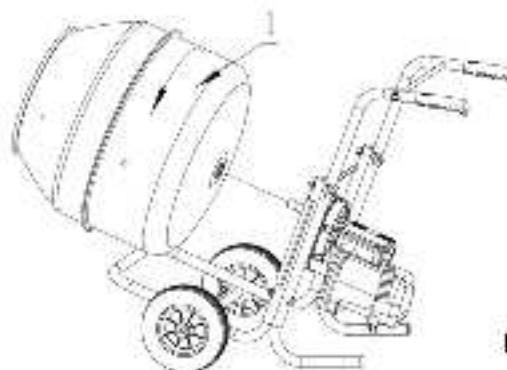

Fig.5
It is recommended to lightly grease the threaded shaft before assembling the drum. Screw the drum (1) onto the threaded shaft, turning clockwise until tight. Do not over tighten.(Fig.5)